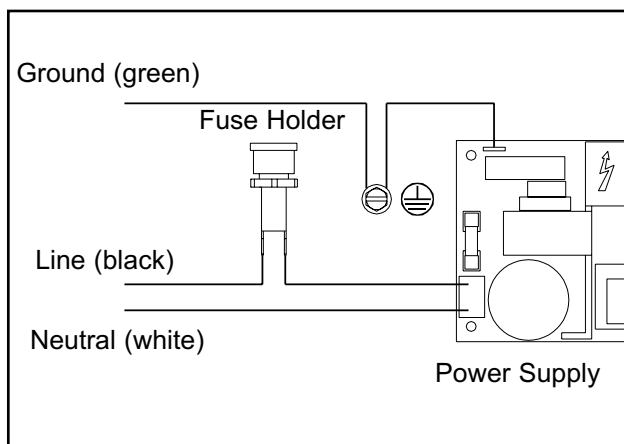

Figure 12: Line Voltage Connection
3. The incoming line voltage hot and neutral wires should be connected via wire nuts to black (hot) and white (neutral) wires of power supply two-pin harness. Connect incoming ground wire to alarm box green ground wire. Refer to Figure 12.